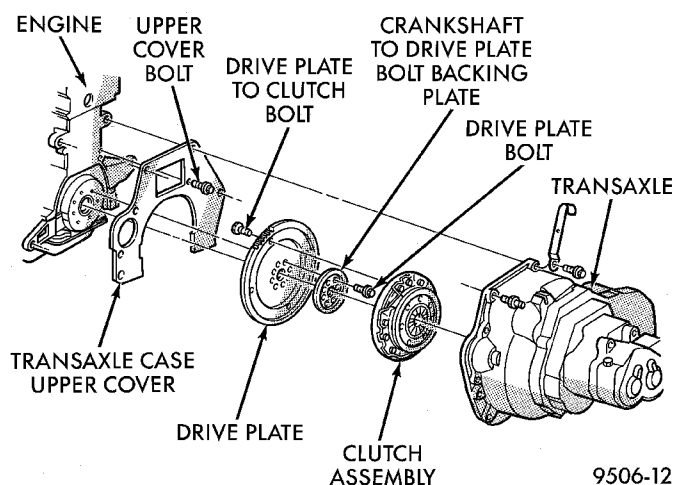

Fig. 9 Clutch Components
(1) Remove the starter wiring. Remove the starter assembly.
(2) Remove the rear transaxle support bracket.
(3) Remove the front transaxle support bracket.
(4) Remove modular clutch retaining bolts.
(5) Remove transaxle. See Group 21, Manual Transaxle, for procedure.
(6) The transaxle and modular clutch come out as an assembly.
(7) Remove the modular clutch assembly from the transaxle input shaft (Fig. 9). Handle carefully to avoid contaminating the friction surfaces.